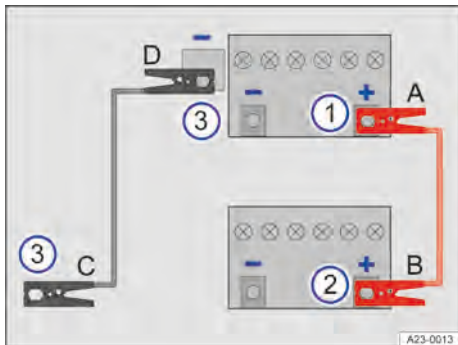

Fig. 186 How to connect the jump leads.
3. Connect one end of the red jump lead to the positive jump-start connection point in the vehicle with the discharged 12-volt vehicle battery → Fig. 186 ①.
4. Connect the other end of the red jump lead to the positive terminal (+) of the vehicle providing assistance → Fig. 186 ②.
→ Fig. 186 ③.
6. Connect the other end of the black jump lead to the earth jump-start connection point on the vehicle with the discharged 12-volt vehicle battery → Fig. 186 ②.